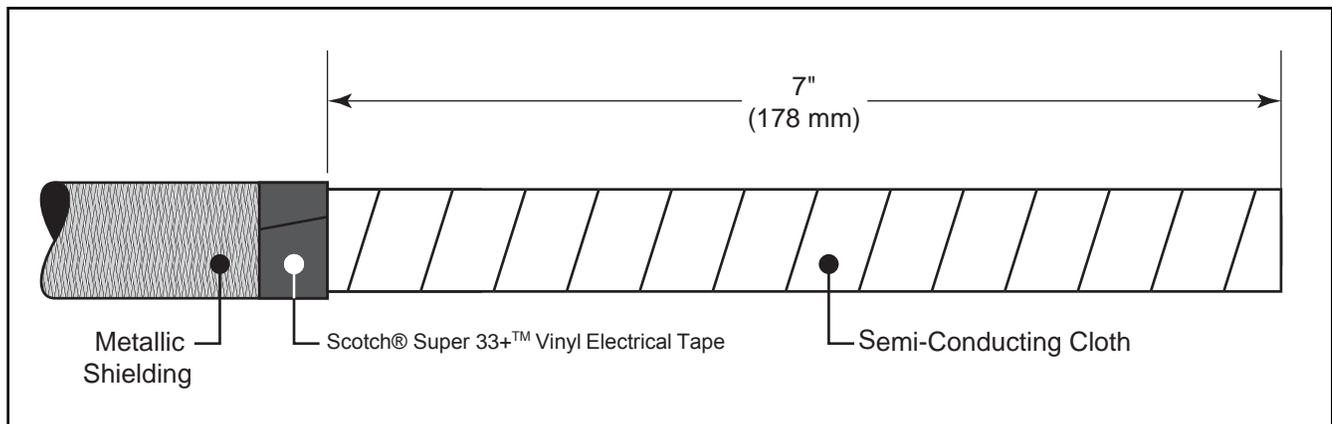

Figure 2
- 1.4 Apply 2 wraps of Scotch® Super 33+™ Vinyl Electrical Tape around each conductor, 7" (178 mm) from end. Remove metallic shielding to edge of Super 33+ Tape. (Figure 2.)